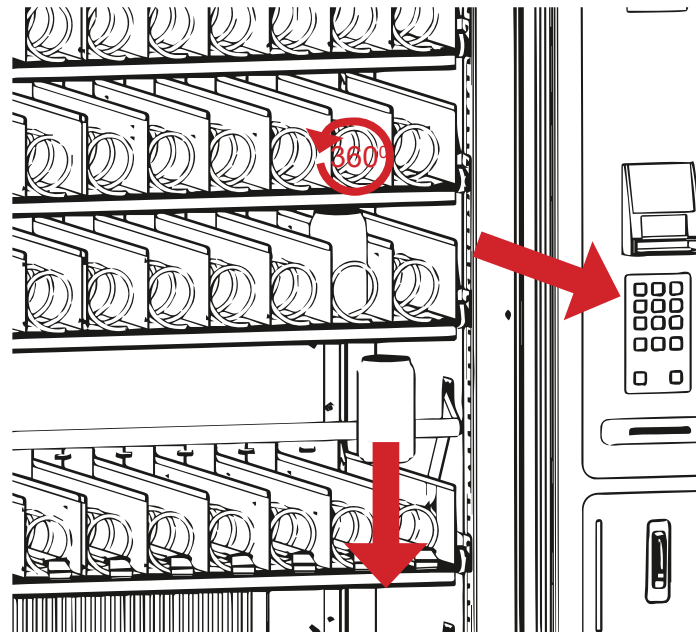

Fig. 1 - Working principle
4. The electrical motor which moves the spiral in the cell containing the selected product makes a full turn of 360° dropping the product into the discharge (dispensing) tray (see fig 1);